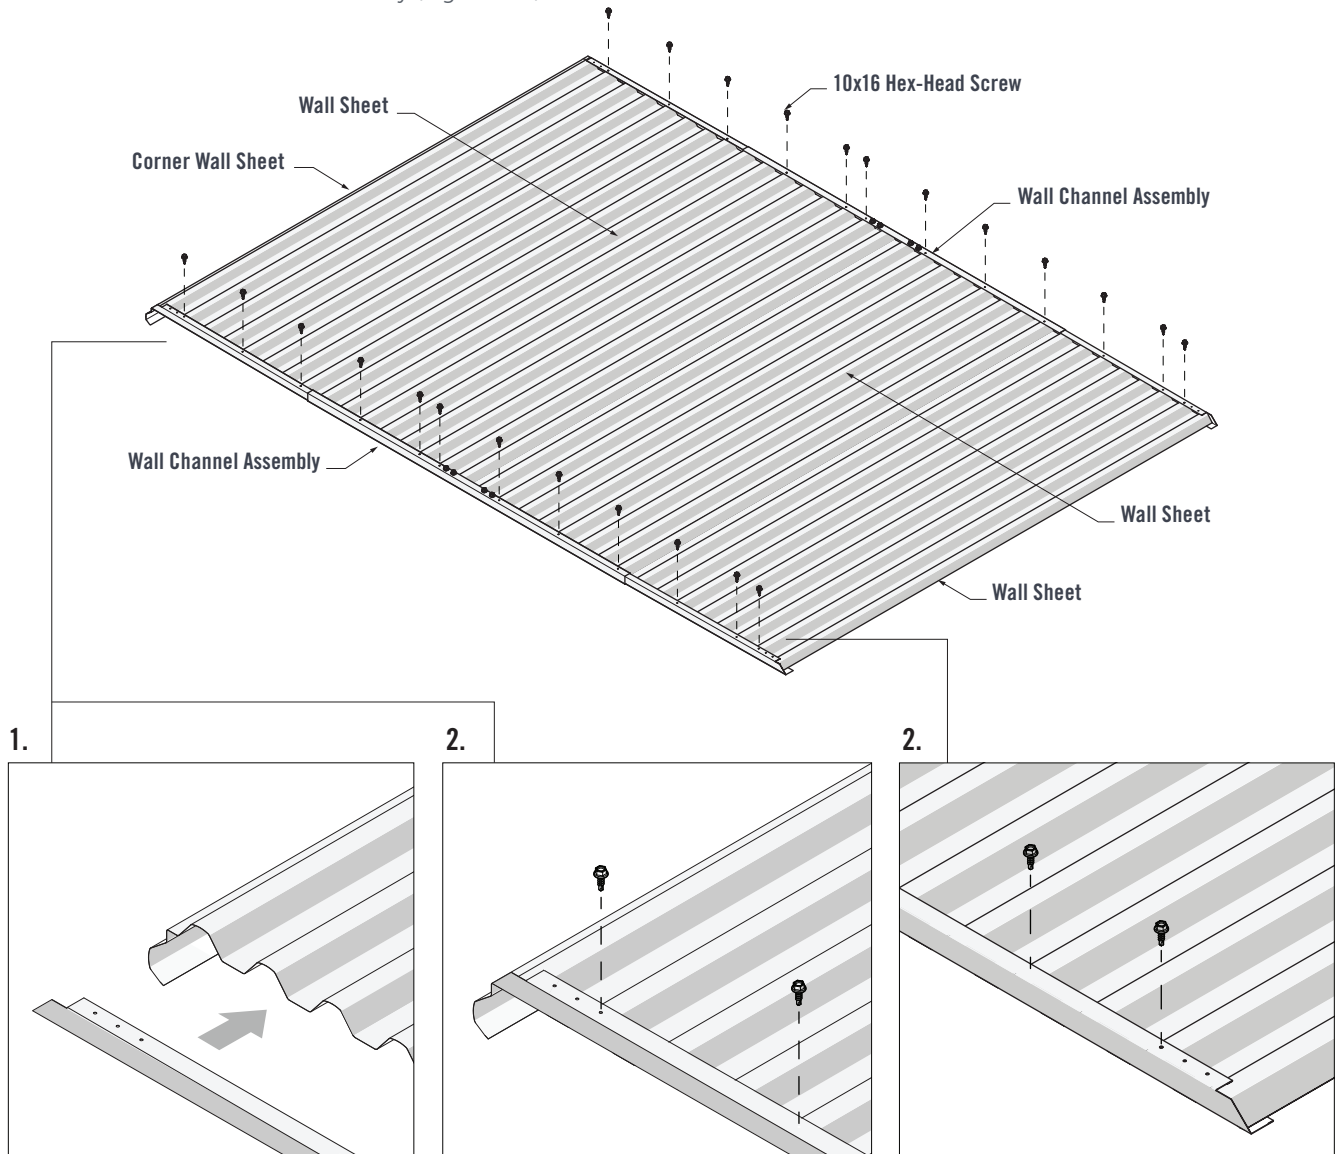

FIGURE 3.2
1. Fit the Wall Channel Assembly over the lapped Wall Sheets. The end of the Wall Channel should fit up against the end of the Corner Wall Sheet (Figure 3.2).
2. Wall Channels have three pilot holes in each end. Fasten through the third pilot hole of both Wall Channel ends and into the Wall Sheet crests. Fasten through the Wall Channel Assemblies and into every third Wall Sheet crest using ten 10x16 Hex-Head Screws in each Wall Channel Assembly (Figure 3.2).